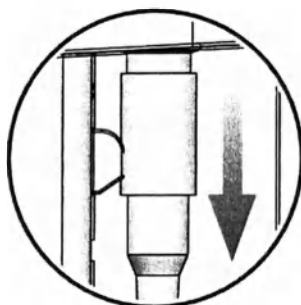

Figure 11: Disconnecting the Preamp Cable
1. Grasp the housing of the connector near Oximeter Preamp port and gently pull straight down on the Preamp cable connector to remove it (Figure 11 on page 14).